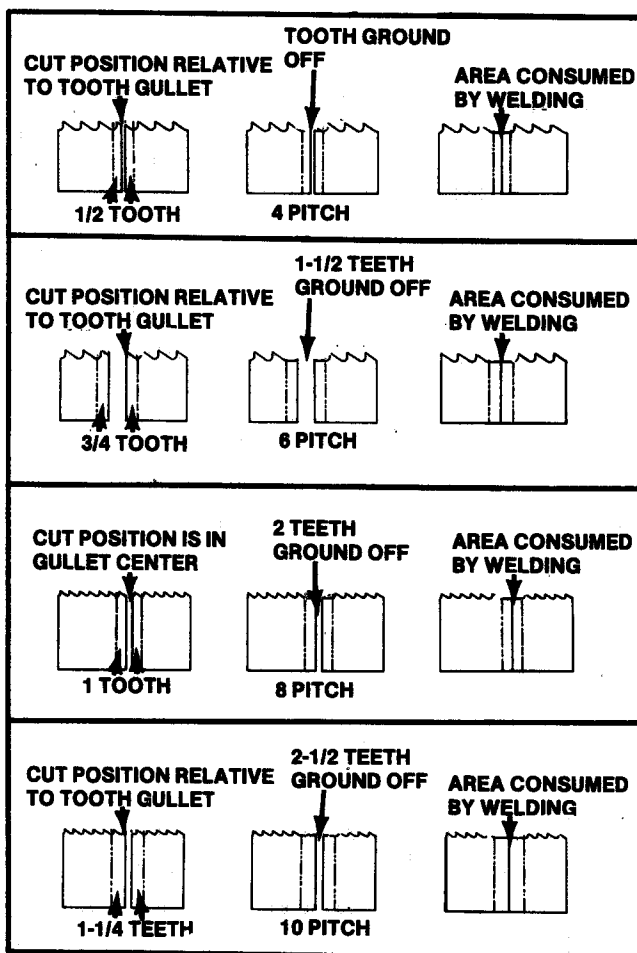

FIG. 3. CORRECT TOOTH SPACING.
- (2) Tooth Spacing. With fine-pitched bands, teeth on each cut side must be removed by grinding. This will insure cross-section uniformity of the band's weld area. It will also insure proper weld area tooth spacing, and teeth set pattern may be retained when necessary. Approximately 1-inch of material is consumed in welding; this means that 1/8-inch of teeth from both band ends must be removed. Examples below cover grinding range for a 1-inch saw band. Also see Fig. 3.